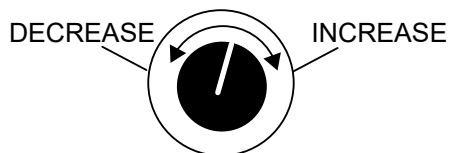

Figure 49. Voltage Adjust Control Knob
5. If the voltage is not within the specified tolerance, use the voltage adjustment control knob (Figure 49) to increase or decrease the desired voltage.